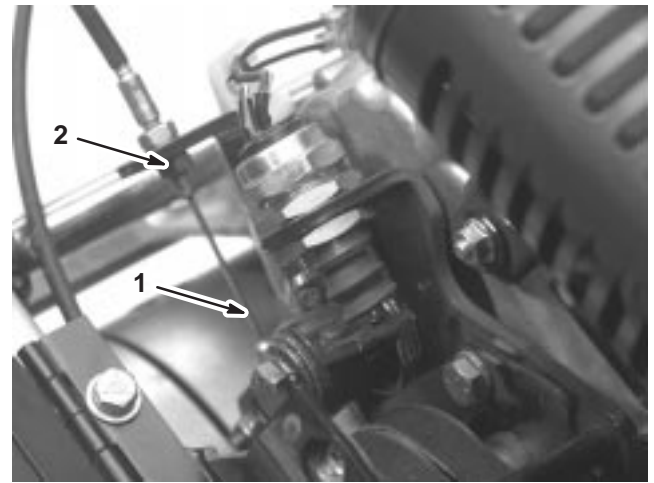

Figure 43
3. To increase the cable tension, loosen the front cable jam nut and tighten the back cable jam nut (Fig. 43) until a force of 3 to 5 lb. is required to engage the traction control. Measure the force at the control knob.